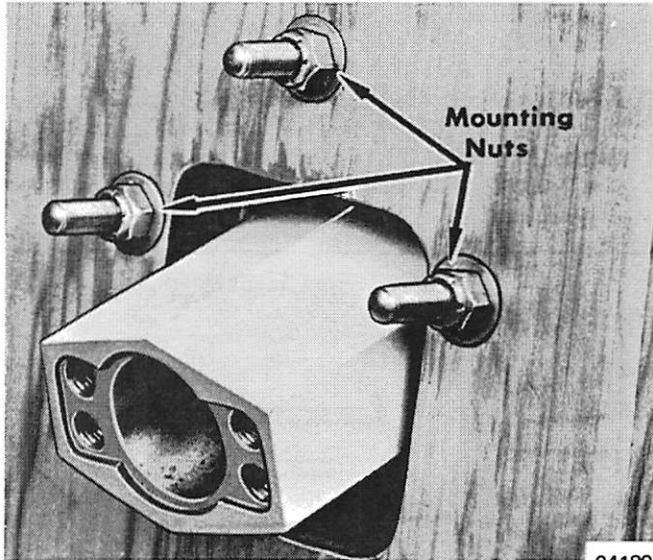

Figure 1. Steering Wheel Post Installed - 20° and 90°
1. Place steering wheel post studs into holes in dash panel. (Figure 1 and 2) Note that plastic bushing already is installed in end of steering wheel post. (Figure 4) Lubricate bushing with New Multipurpose Lubricant (C-92-49588).
2. Fasten steering wheel post in place with nuts and washers and tighten. (Figure 1 and 2)